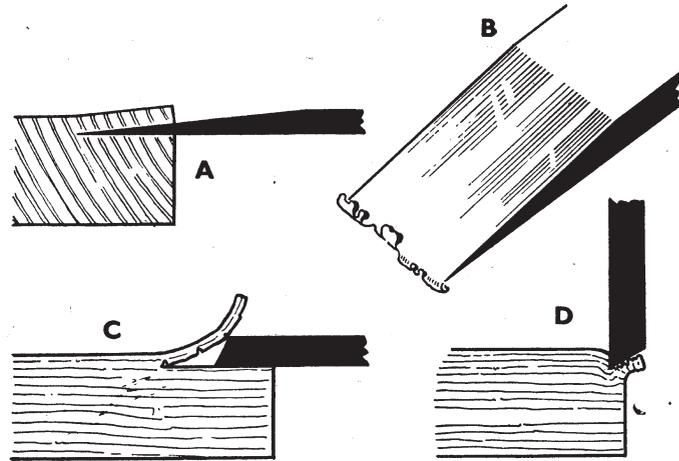

FIG. 2. HOW SHARPENING ANGLE AFFECTS PERFORMANCE
use because of the resistance. The idea is shown in Fig. 2. If only the thin bevel at (A) would retain its edge it would slice its way through the wood. Note how the